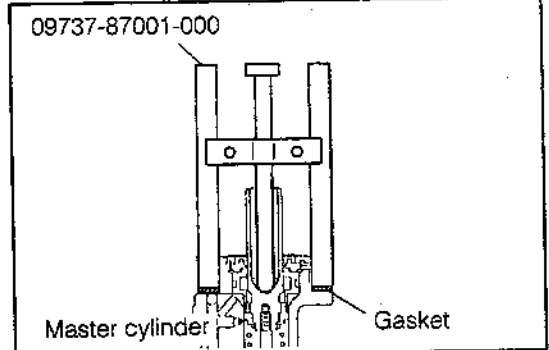

Fig. 8-73
- (1) Set the SST in such a way that the SST rod makes a light contact with the piston of the master cylinder, as indicated in Fig. 8-73.